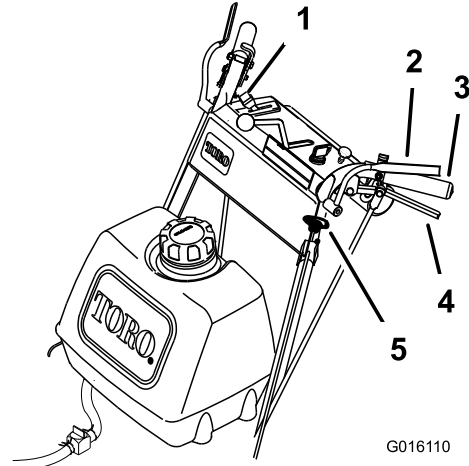

Figure 12
- To engage blades, squeeze the Operator Presence Control (OPC) levers against handle grips (Figure 12).
- Push the blade control knob (PTO) down to off (Figure 12).
- Releasing the Operator Presence Control (OPC) levers will kill the engine and stop the blades (Figure 12) with the blade control lever engaged.